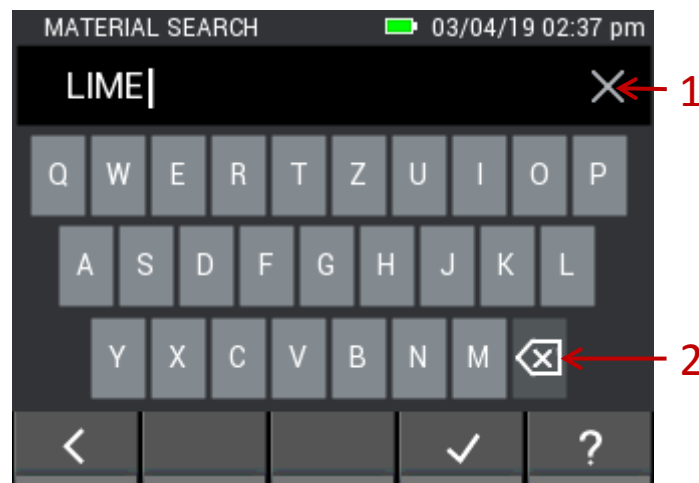

Figure 5-14: Keyboard input for the building material search
In the building material search, the complete name of a building material or only any part of it can be entered before the search is started. Button (1) in Figure 5-14 clears the entire input; button (2) deletes the last character of the input.